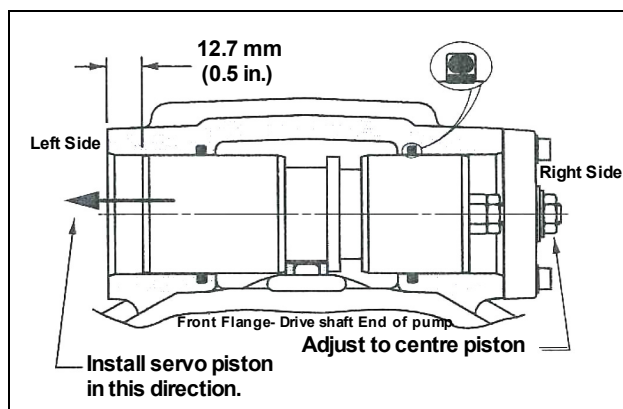

Figure 5-92. Servo Piston Installation
4. Screw the cover plate onto the servo piston assembly. Install new cover plate gasket in place on housing. Install servo piston assembly and cover plate into servo piston bore in right side of housing (as shown in Figure 5-92. Retain cover plate with four each washers and cap-screws. Torque capscrews 40 to 48 in.lbs (4.5 to 5.4 Nm). To obtain neutral, centering the servo piston assembly is required. Measure in from the left side and set servo piston 0.5 in. (12.7 mm) from surface of housing servo bore as shown in Figure 5-92.